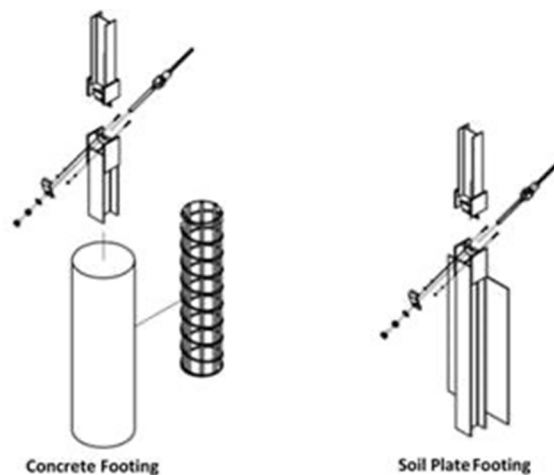

Figure 2
1. Lay out the four (4) CRP footings.
3. Fabricate a rebar cage in accordance with project/shop drawing requirements. A standard spiral rebar cage that may be applicable is PN-33916B (See Figure 2).
The Bottom CRP with Soil Plate assembly, size based on soil conditions, can be driven or placed in an augured hole. The soil plate can be either welded or bolted to the bottom CRP (See Figure 2).